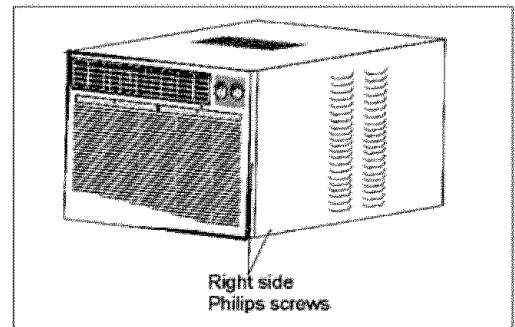

Fig. 1
See (Fig. 1).
B. Secure the front grille to the cabinet using the Phillips screws removed earlier (Fig. 1).